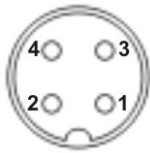

Figure 3-11: Power Input Connector
- CN Pinouts:** See **Figure 3-11**